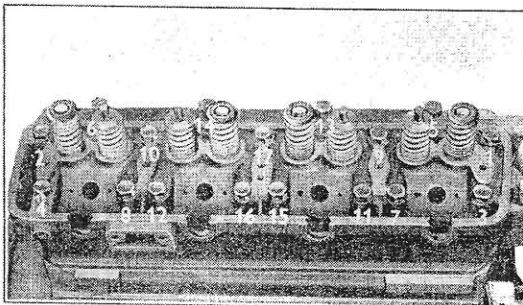

Fig. 5.
8. Remove the 17 cylinder head retaining screws using the sequence shown in Fig. 5 and remove the cylinder head and gasket, and followed by the small rubber washer fitted under the gasket at the rocker oil feed drilling, mid-way along the block.